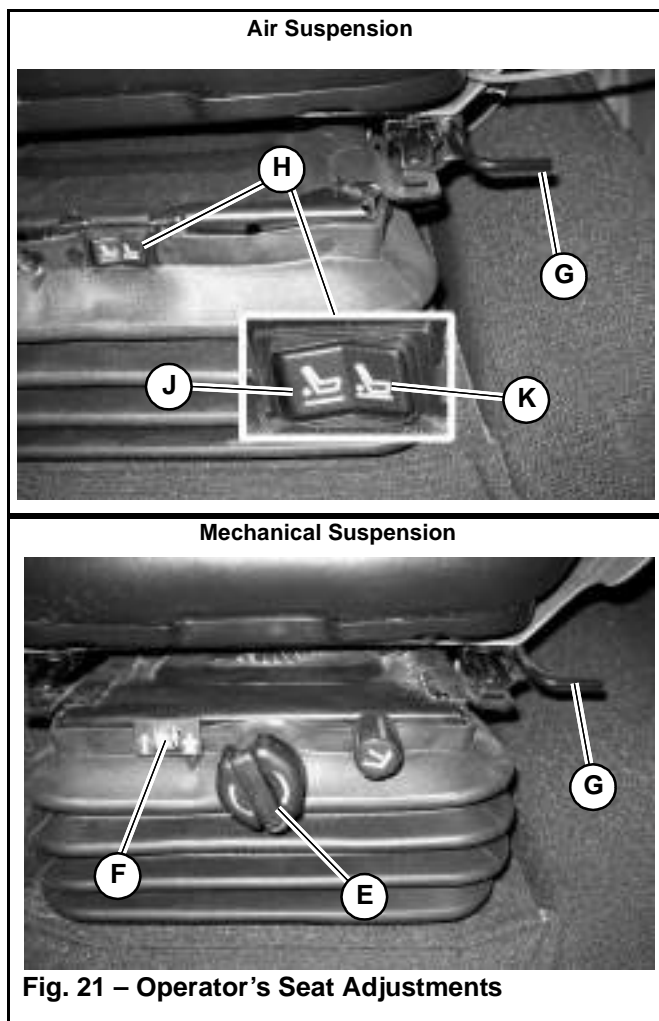

Fig. 21 – Operator's Seat Adjustments
- Forward and back horizontal position (G, Fig. 21).
- Up and down vertical height/weight suspension (E).
While sitting in the operator's seat, pull up on handle (G, Fig. 21). Move the seat and control lever base forward or back as desired. Release bar (G) when the seat is in the desired position. Make sure the seat is locked in position after adjusting.
While sitting in the operator's seat, turn knob (E, Fig. 21) as necessary to center the black line on the yellow background in indicator (F).